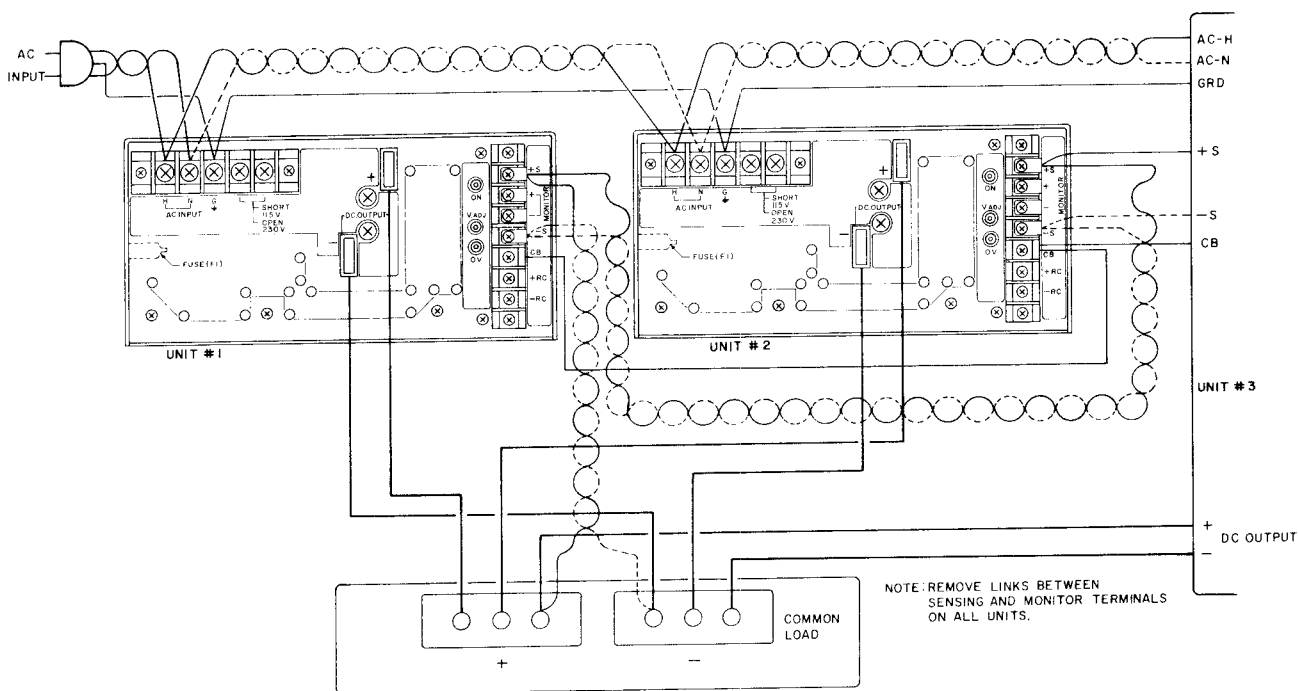

FIG. 3-3 LOAD CONNECTIONS WITH ERROR SENSING AND PARALLEL SYNCHRONIZATION VIA THE "CB" TERMINAL, TWO IDENTICAL RBX MODELS SHOWN.
- 3-11 **PARALLEL OPERATION.** Identically rated RBX power supply models may be connected in parallel for increased output current into a common load (Refer to FIG. 3-3).
- 3-12 A parallel connection of two (2) identical RBX power supplies is shown in FIG. 3-3 to illustrate the wiring of the sync terminal (CB) and the interconnection of the error sensing terminals. **It is important to maintain strict polarity among the \pm error sensing terminals.** For this reason the (-) sensing lead is shown with dashed lines.
- 3-13 The polarity of the a-c terminals must be preserved as well, as is indicated in FIG. 3-3 where the neutral line is shown dashed.